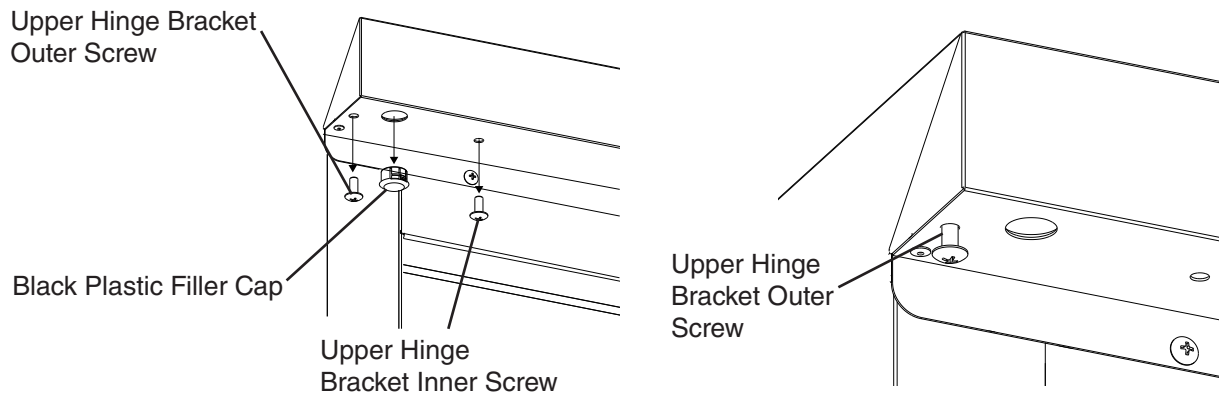

**Fig. 16**
- 13) Remove the upper hinge bracket screws from the new location and apply Loctite Threadlocker Blue 242 or 243 to the threads. Next, start the upper hinge bracket outer screw into the appliance. Rotate a few threads into the appliance; do not tighten the screw. See Fig. 16.